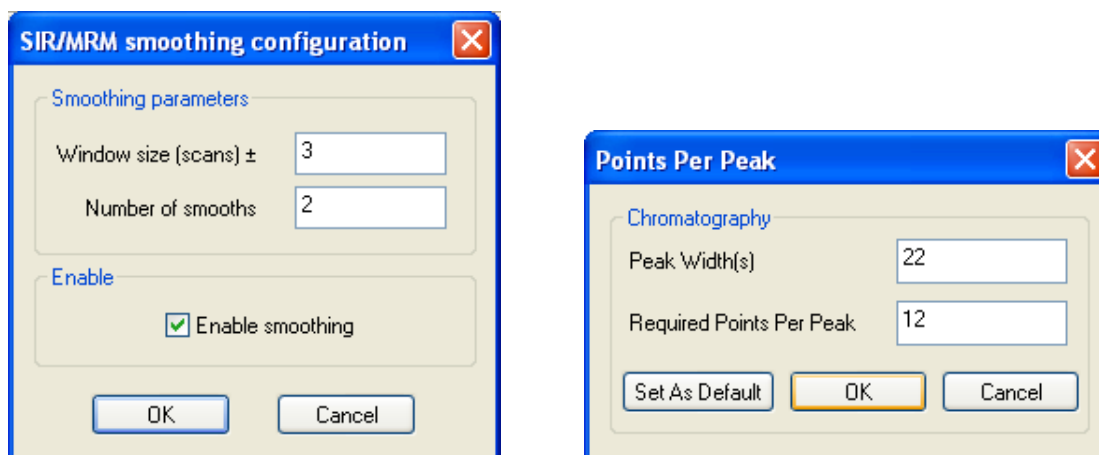

Figure 96 - MS method option settings
3. In the method options, set the parameters shown in Figure 96.